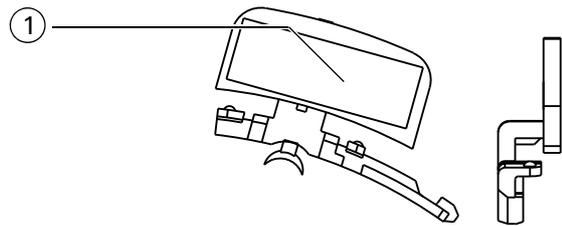

Fig. 3: Address Label Flag
- 2 Insert the pin into its aperture on the rim of the base (see Item 3 in Figure 3). The pin should sit flush in its aperture, with the sprung tab upwards.
An Address Flag is shown in Figure 3, the 4B-DAF DIN Address Flag is very similar.